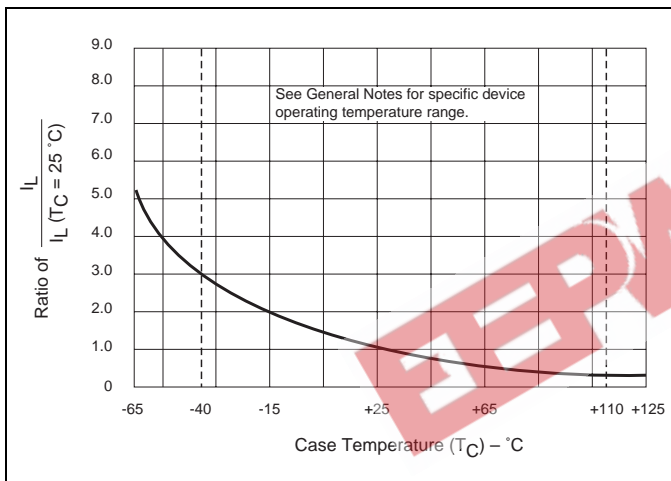

Figure E5.18 Normalized DC Latching Current versus Case Temperature
- Latching current can be higher than 20 mA for higher I_{GT} types. Also, latching current can be much higher at $-40^\circ C$. See Figure E5.18.